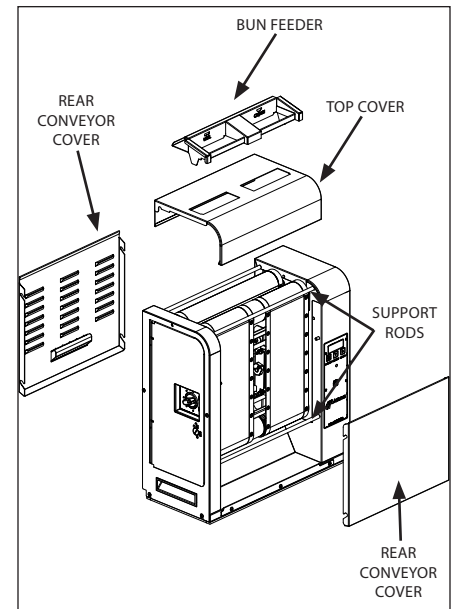

Figure 5. - Removing Components
2. Wearing Heat-resistant gloves, Remove the bun feeder, top cover, and the front and rear conveyor covers (Figure 5).
9. Reinstall the clean front and rear conveyor covers, top cover, and bun feeder (Figure 5).